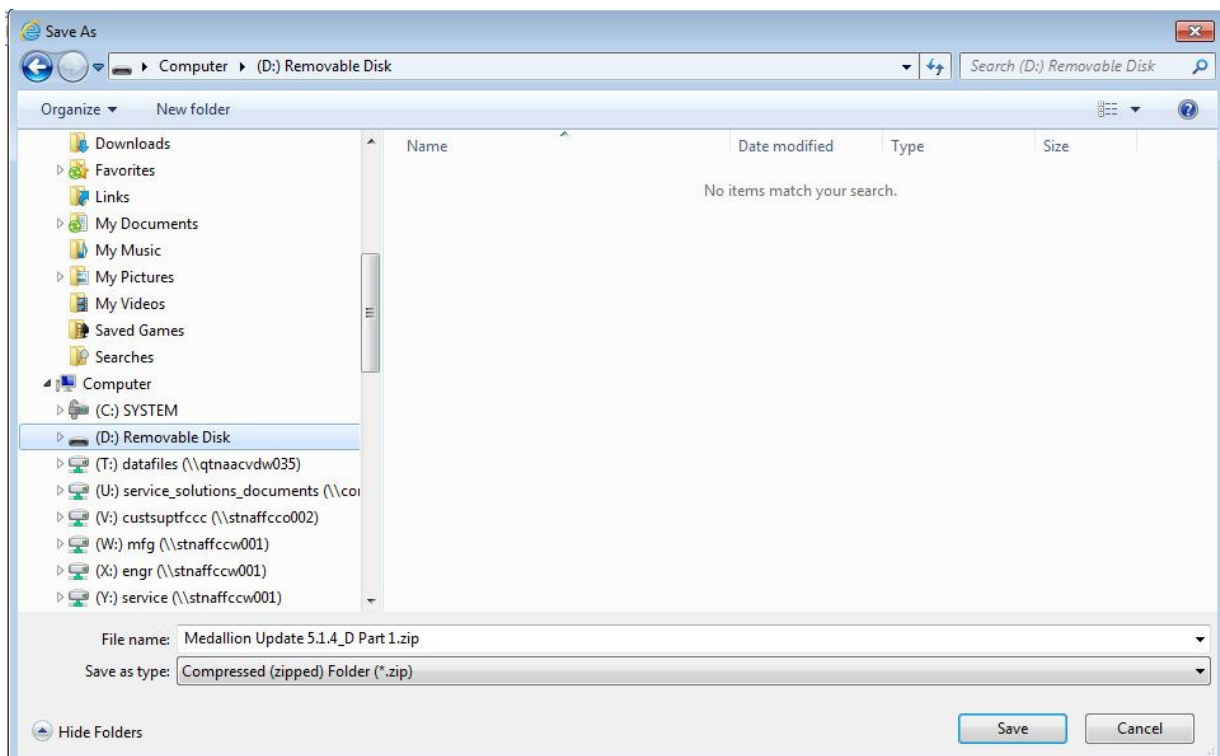

Fig. 4, Choosing the Drive Letter and Saving
5. Choose the flash drive letter noted in step 2. See Fig.4.